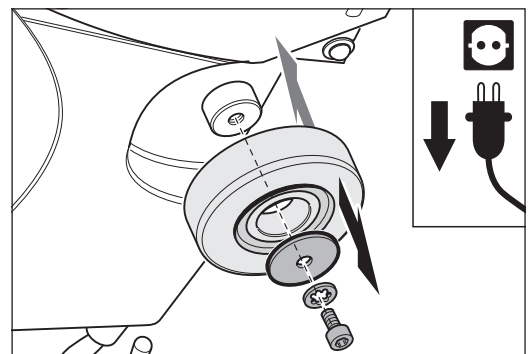

Fig. 58 Remove the screw with the washers in the centre of the wheel and remove the lateral wheel. Replace in reverse sequence. **Similar to figure.**
- 5 Release the screw in the centre of the lateral wheel and remove the screw and the washers (Fig. 58).